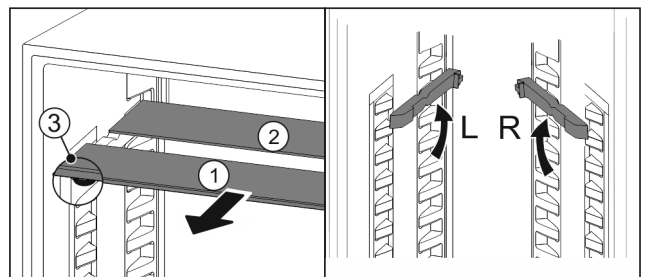

Fig. 102
- ▶ Pull the glass panels out Fig. 102 (1) from the front, one at a time.
- ▷ The glass panel Fig. 102 (1) and trim strip are at the front.
- ▷ The stops Fig. 102 (3) point down.